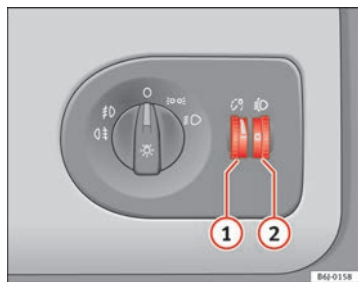

Fig. 54 Dash panel: regulation for instrument and switch illumination and headlight range control
When the headlights are switched on, the brightness of the instruments and switch lighting can be regulated to suit your requirements by turning the thumb wheel ⇒ fig. 54 ①.